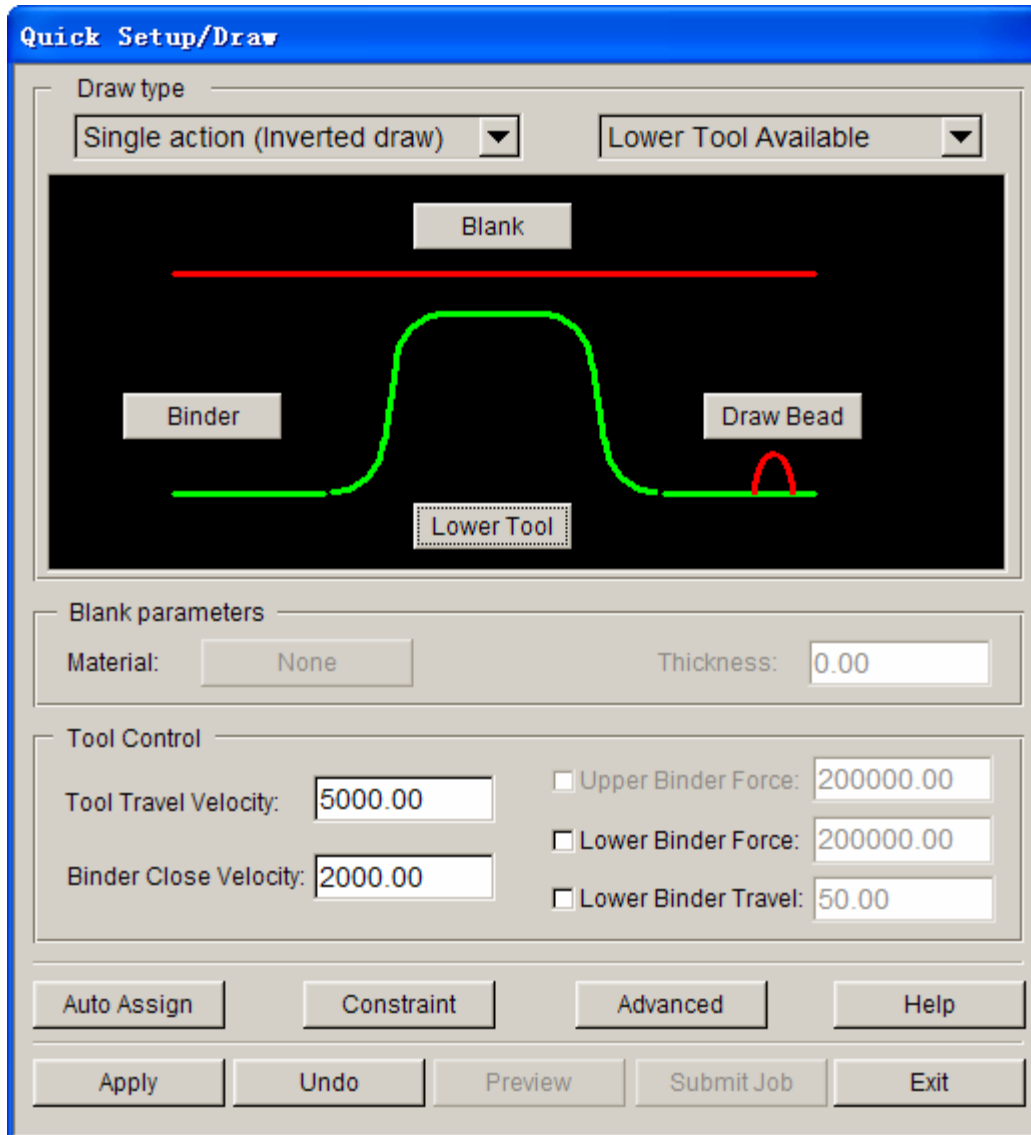

Figure 53: QuickSetup GUI after tools are defined
7. Repeat the above steps to define the **Lower Tool**. Once both tools are defined, the color in the Quick Setup/Draw window will be changed to green, as illustrated in Figure 53.